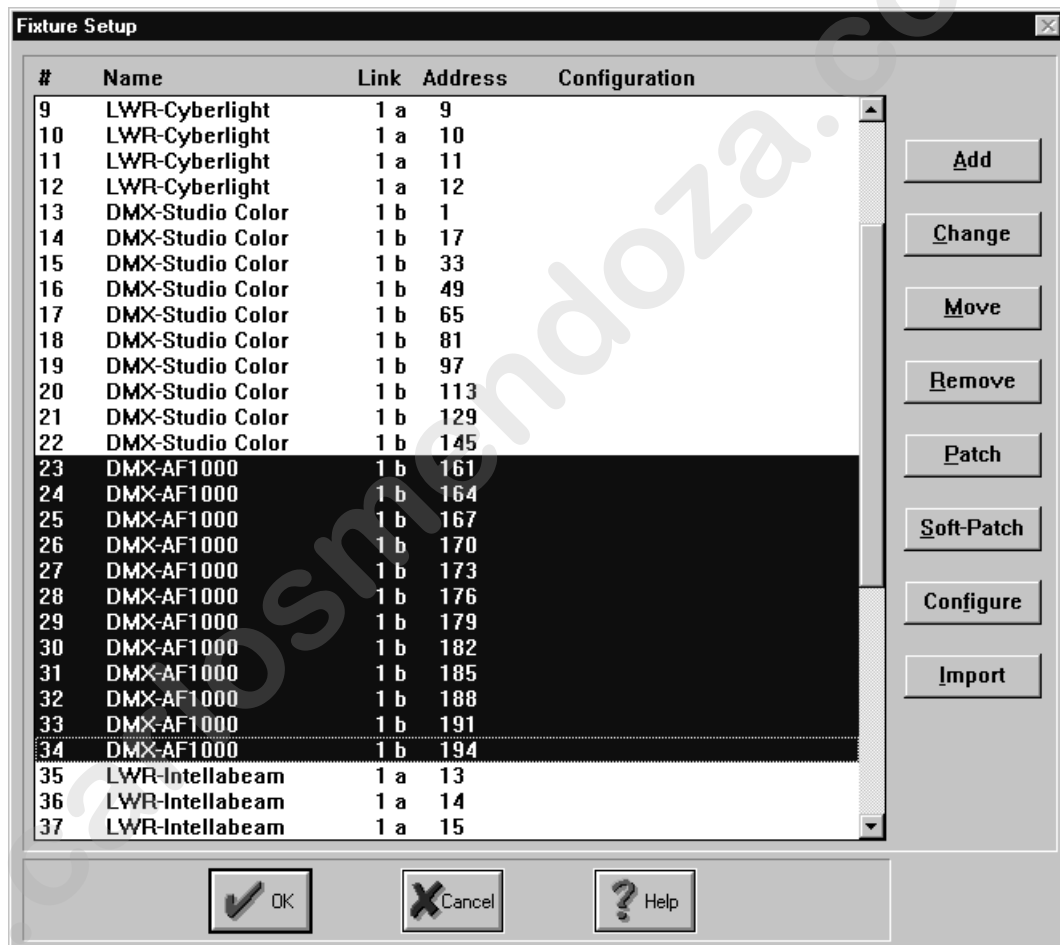

Figure 4.12. Selecting Fixtures to Patch Example
2. Select the fixture(s) that you wish to patch or unpatch. In this example, we will patch AF1000 fixtures from Link 1A to 2B. Refer to Figure 4.12.